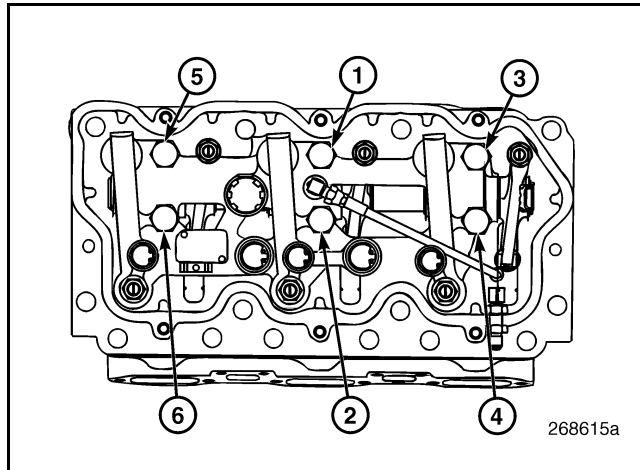

Figure 386 — Engine Brake Assembly Mounting Bolt Tightening Sequence
9. After each brake housing is seated on the cylinder head, tighten the mounting bolts to specification, 45 lb-ft (61 N•m), in the sequence shown (Figure 386).